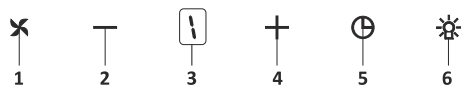

Fig. 19: 5 Spd Dig Button
1. ➤ Press this button to turn on the product. Fig. 19
2. ➤ Press this button to decrease the motor speed. Fig. 19
3. ➤ Dig display You can follow which speed the product is currently working on this display. Fig. 19
4. ➤ Press this button to increase the motor speed. Fig. 19
5. ➤ When timer button is pressed, a 15-minute timer function will be activated; display will give a signal once the timer starts and the motor will stop automatically after 15 minutes. Fig. 19
6. ➤ Press this button to turn on and off the lamp. Fig. 19